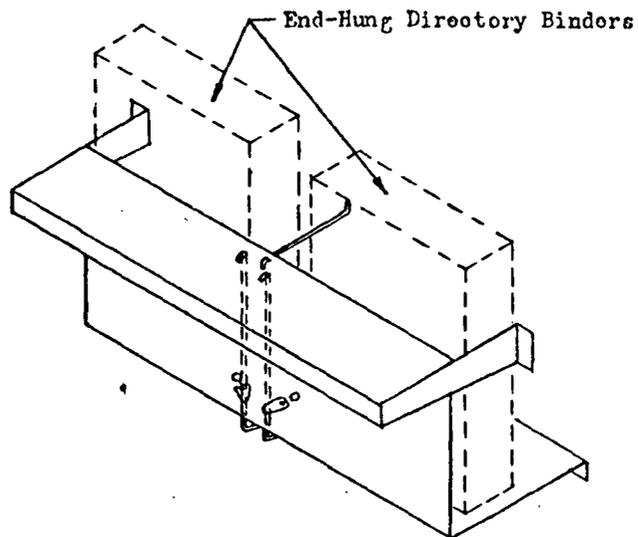

Fig. 5
6.01 The BN-858A Booth requires the use of end-hung directories. Binder rods and swivel are provided for mounting two directories. (See Fig. 5.)